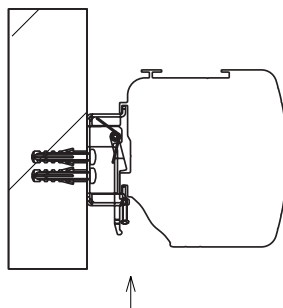

Figure 4
3. Finally tighten the safety screw of the mounting bracket. This prevents inadvertent release of the mounting bracket. (see Fig. 4)